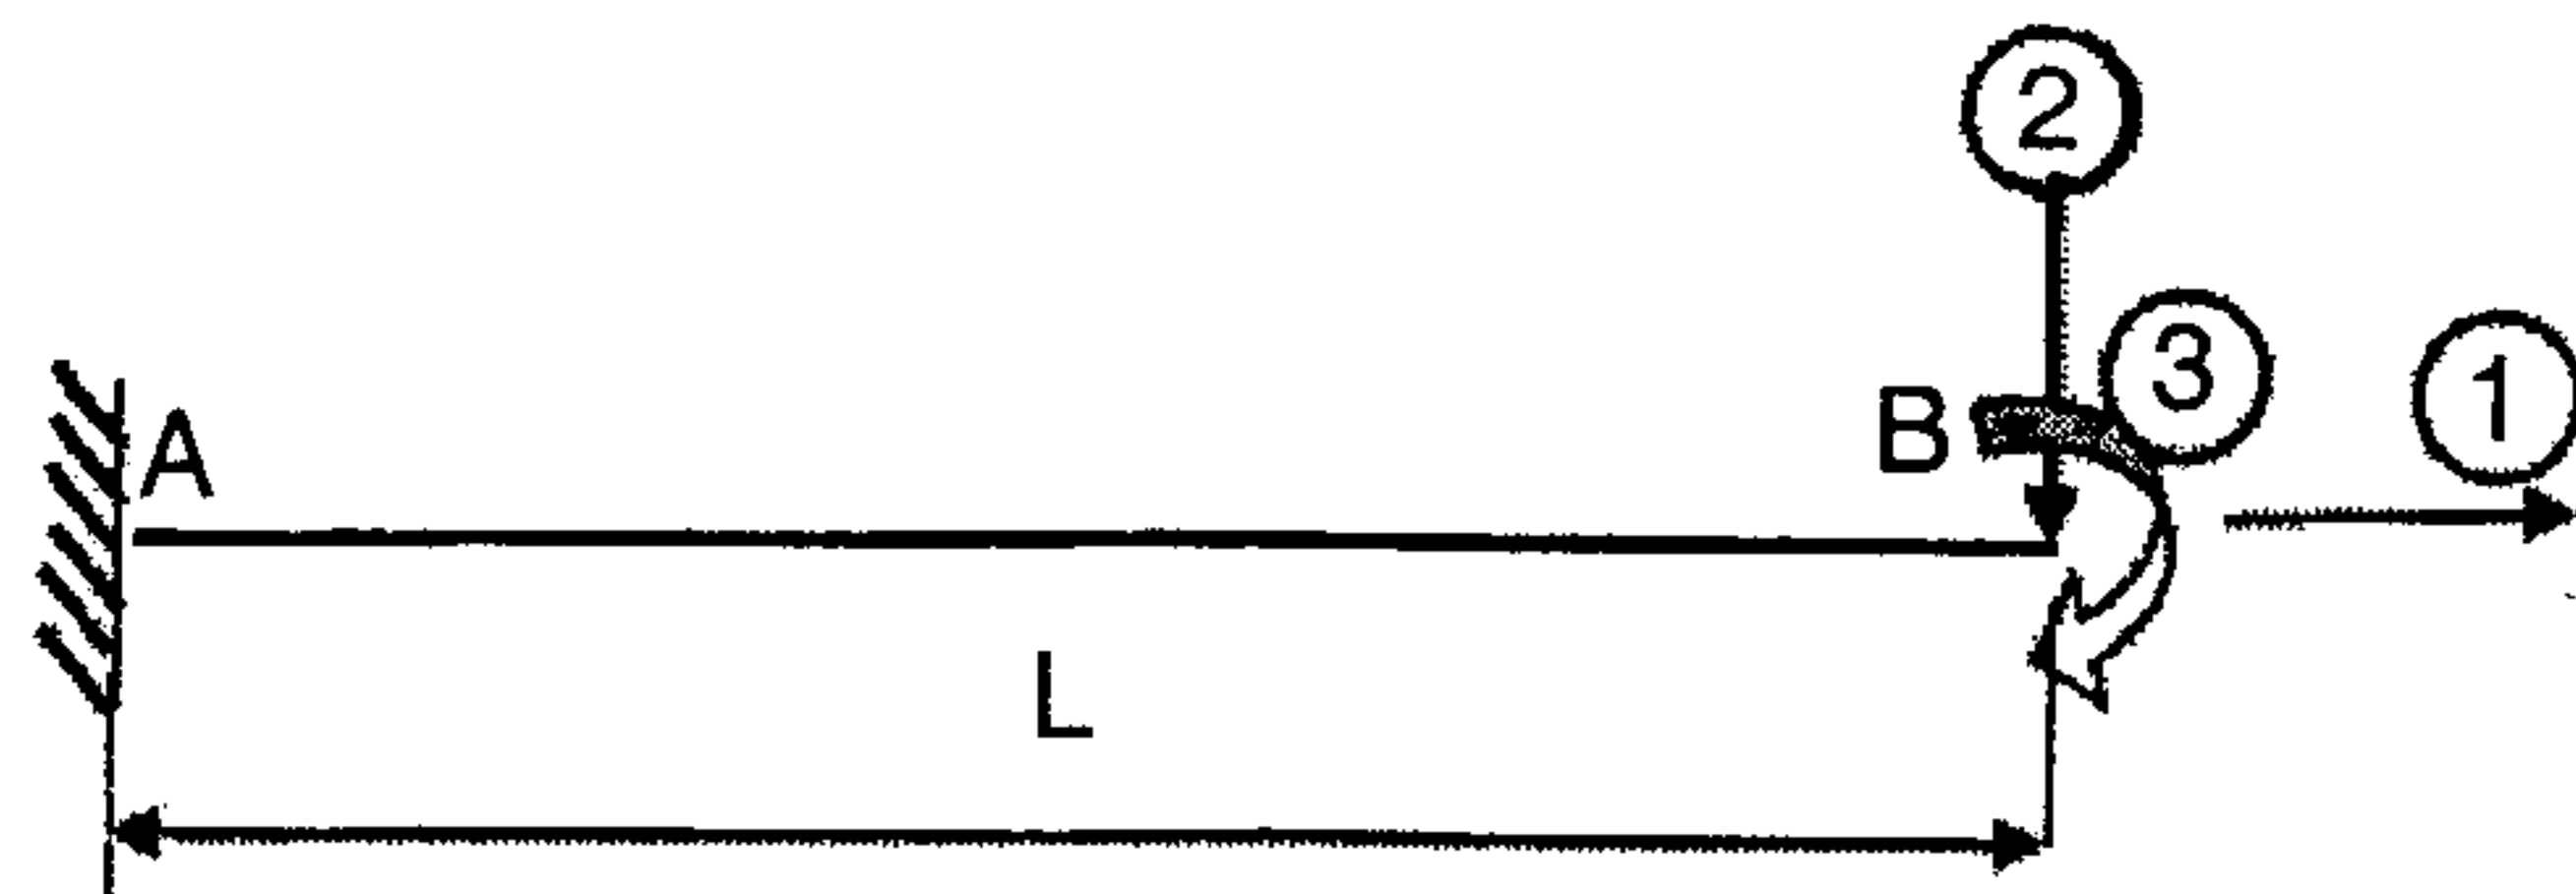

Fig. 2
6. For the beam AB shown in Fig. 2 find (i) axial stiffness corresponding to coordinate (1) (ii) Transverse stiffness corresponding to coordinate (2) and (iii) flexural stiffness corresponding to coordinate (3). A is the cross sectional area and E is the Young's modulus of the beam.